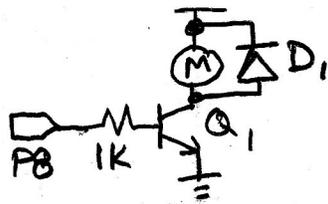

Figure 4.3. Simple transistor switch to control a motor using a microcontroller.
- b. The 3 terminals are called the emitter (E), the collector (C), and the base (B). These names come from the days of vacuum tubes: The emitter emits electrons and the collector collects them. So the emitter must always be more negative than the collector.
2. Connect the transistor's base to the Basic Stamp's Pin 8 (Figure 4.3). Write a program to switch the motor on and off at 1 second intervals and demonstrate operation.
1. Using the configuration shown in Figure 4.3, run the following program which illustrates pulse width modulation.